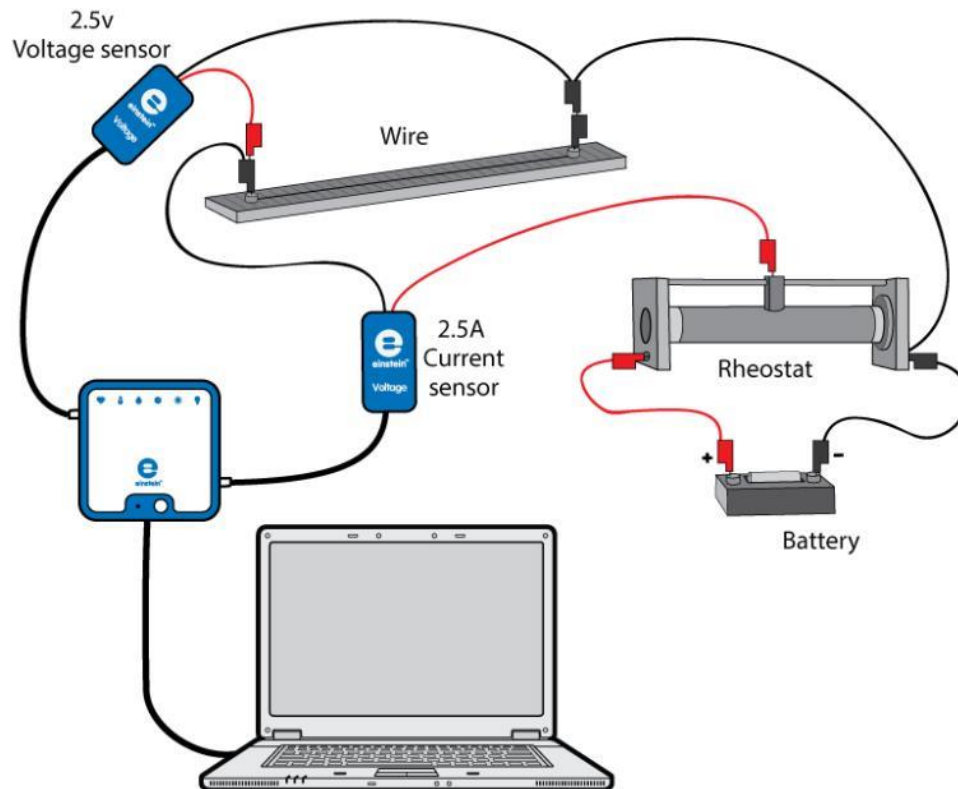

Figure 1
4. Assemble the electric circuit as shown in Figure 1: